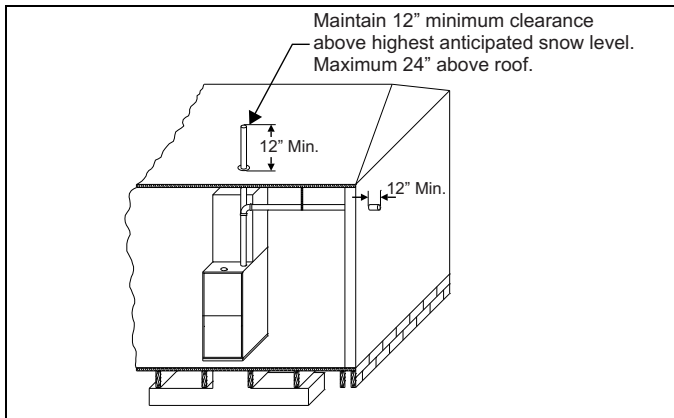
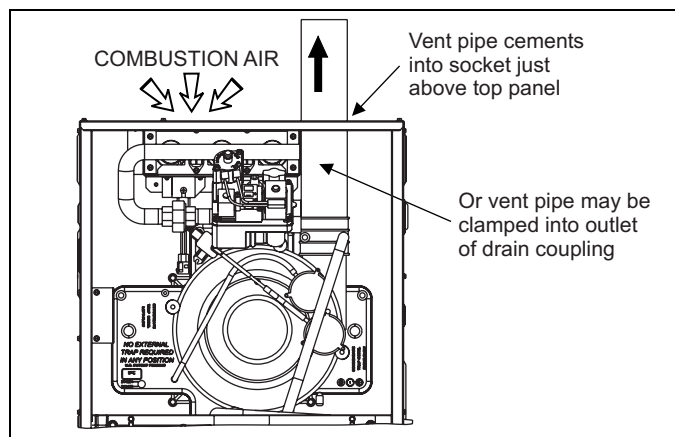

FIGURE 33: Termination Configuration - 1 Pipe
FIGURE 39: Combustion Airflow Path Through The Furnace Casing
The combustion air side of the single pipe configuration shown in Figure 33 is referred to in these instructions as ambient combustion air supply. Follow the instructions for ambient combustion air installations, paying particular attention to the section on air source from inside the building. The vent for a single pipe system must be installed as specified in the venting section of these instructions with the vent terminating as shown in Figure 33. Each furnace must have a separate vent pipe. Under NO circumstances can the two vent pipes be tied together.
2. **AMBIENT COMBUSTION AIR:** Combustion air is supplied from the area surrounding the furnace through openings in the furnace casing. The combustion air and the vent pipes are not terminated in the same atmospheric zone. Refer to Figure 33 for vent terminations. Refer to "Ambient Combustion Air Supply" for proper installation. Refer to Figure 39.